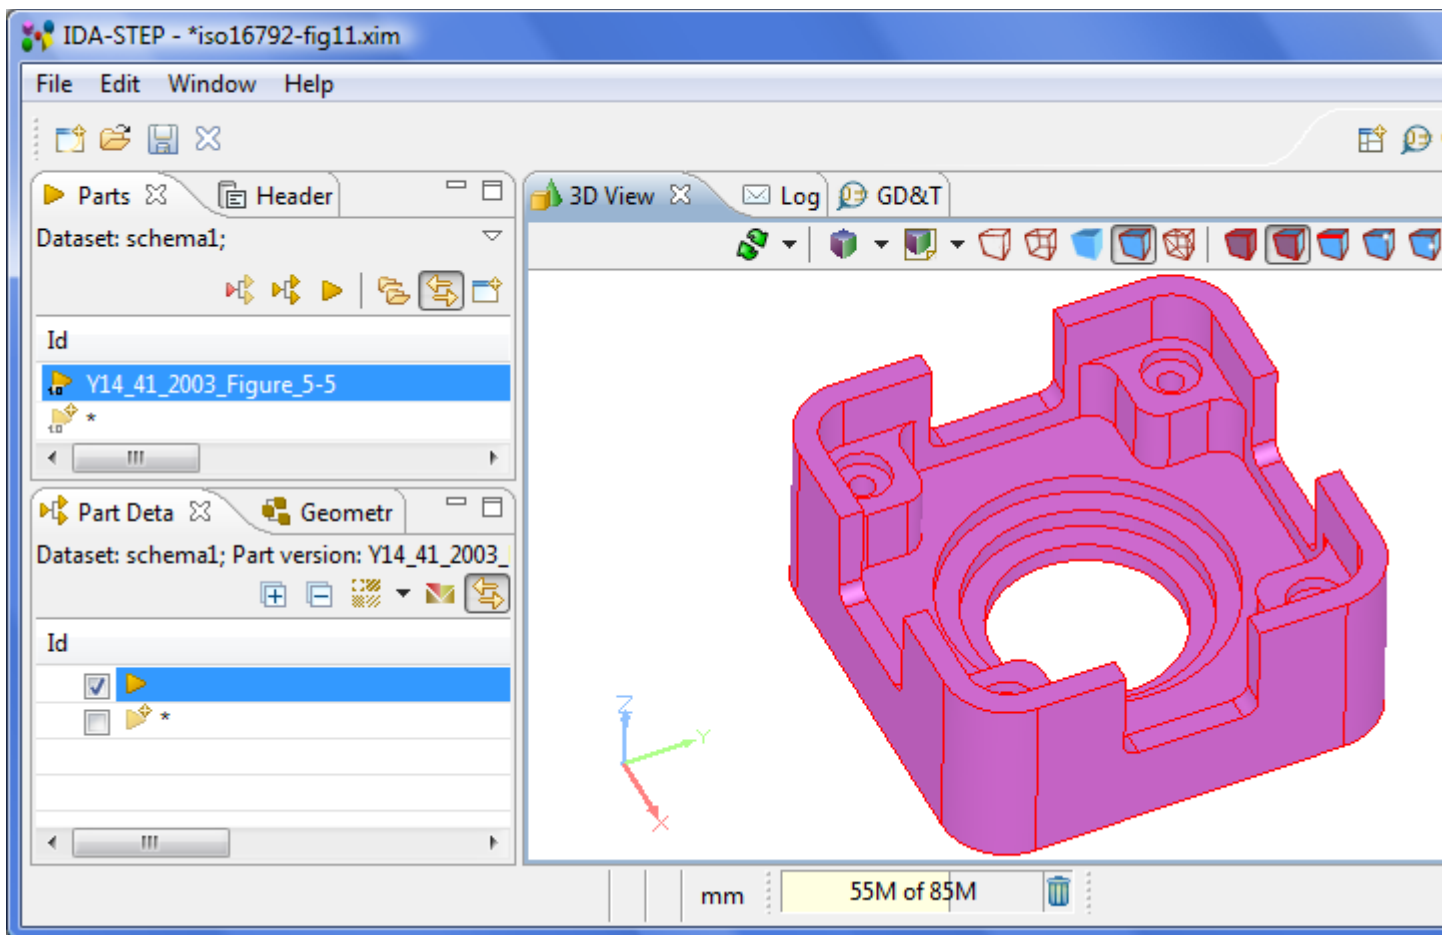

Figure 1. STEP file with 3D model data
- The STEP file with an applicable 3D model data has to be opened in IDA-STEP (see Figure 1).